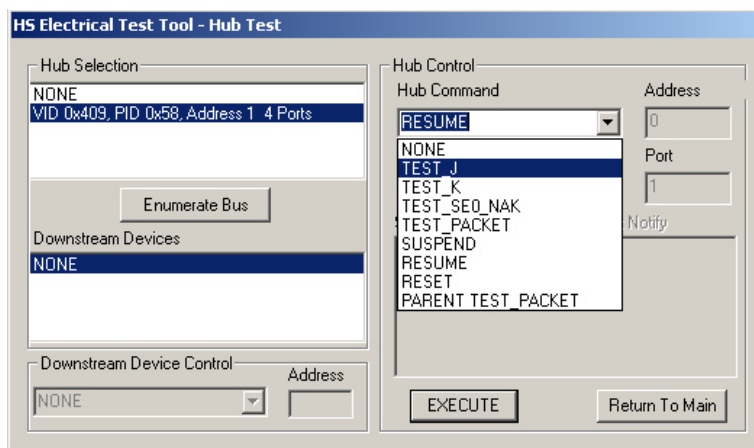

Figure 53. Hub Upstream Port TEST_J
4. On the HS Electrical Test Tool – Hub Test menu select TEST_J from the Hub Command drop down menu. (Figure 53)